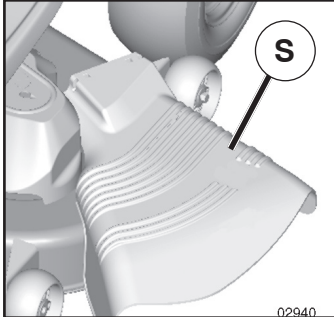

Fig. 10
**CAUTION:** Do not operate the mower without either the entire grass catcher, on mowers so equipped, or the deflector shield (S) in place (See Fig. 10).